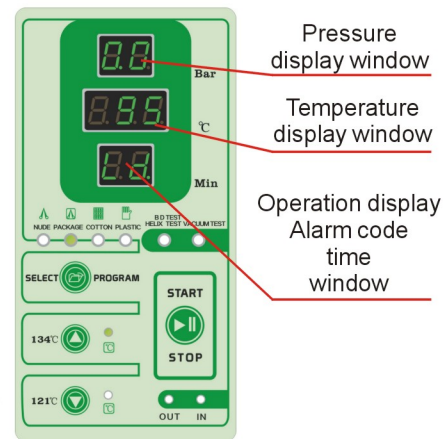

Fig.7.3-1
7.3 JY-18 JY-23 operation panel and function (Fig.7.3-1)